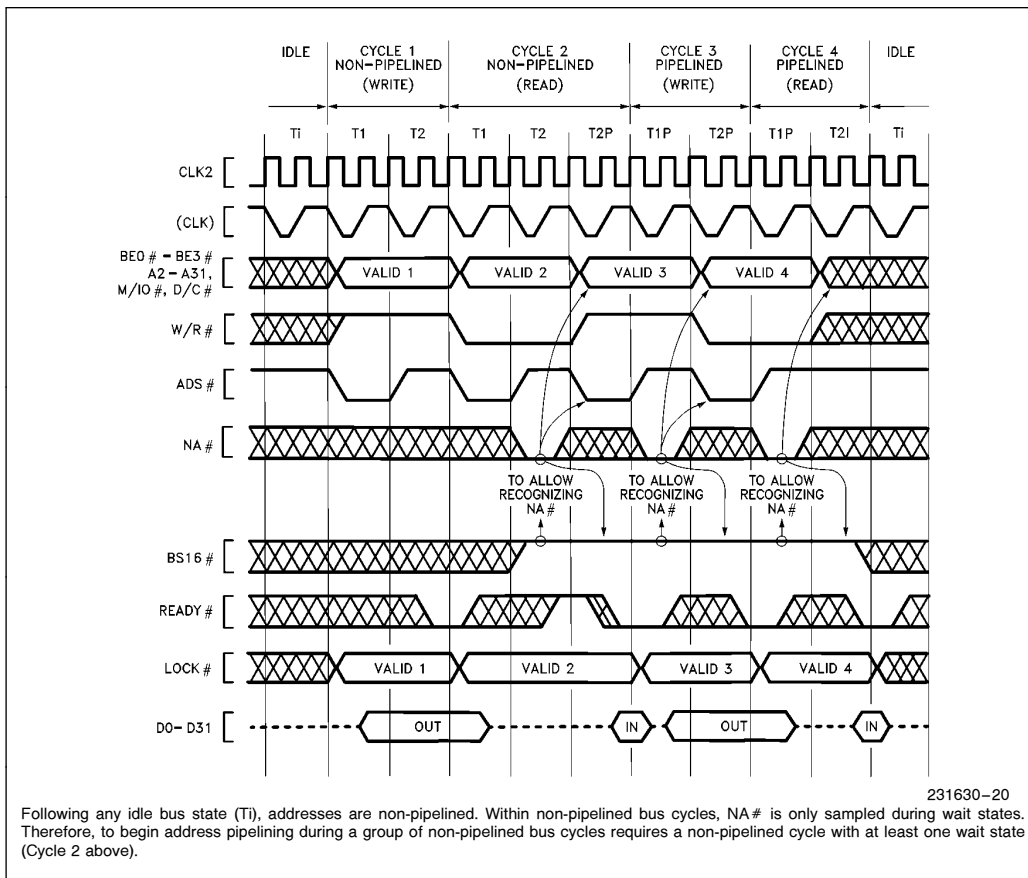
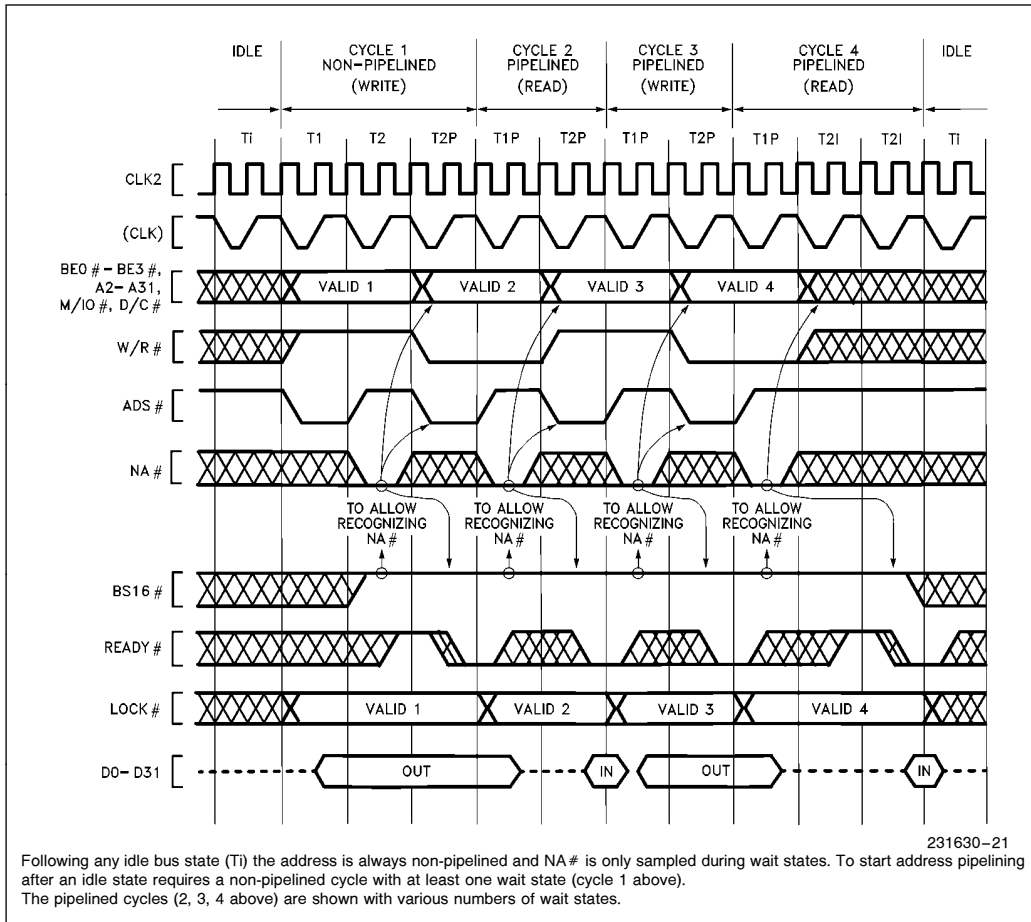
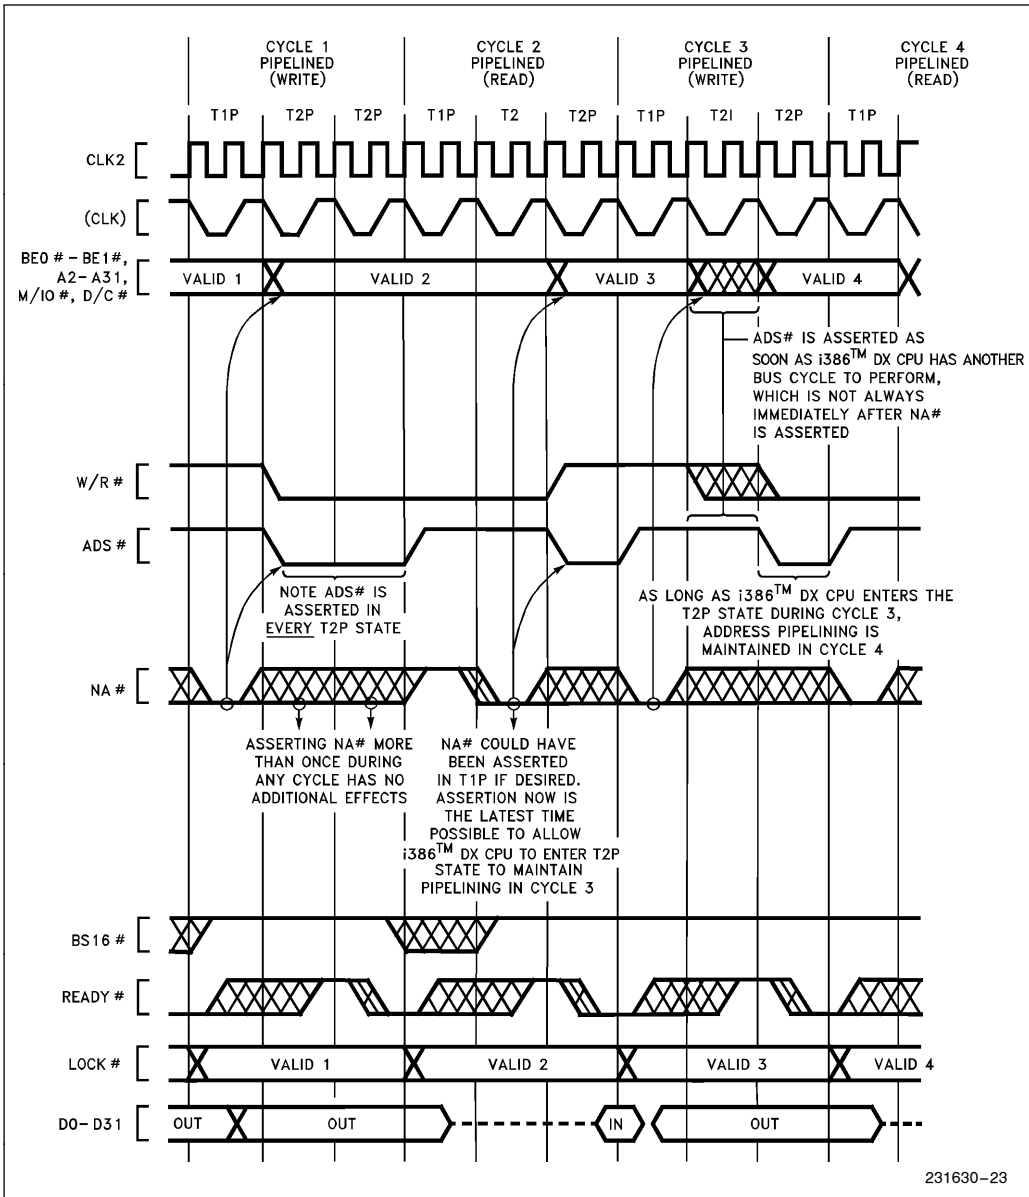

Figure 5-16. Transitioning to Pipelined Address During Burst of Bus Cycles
Figure 5-17. Fastest Transition to Pipelined Address Following Idle Bus State
Figure 5-19. Details of Address Pipelining During Cycles with Wait States
Once a bus cycle is in progress and the current address has been valid for at least one entire bus state, the **NA#** input is sampled at the end of every phase one until the bus cycle is acknowledged. During non-pipelined bus cycles, therefore, **NA#** is sampled at the end of phase one in every T2. An example is Cycle 2 in Figure 5-16, during which **NA#** is sampled at the end of phase one of every T2 (it was asserted once during the first T2 and has no further effect during that bus cycle).
- 1) For **NA#** to be sampled asserted, **BS16#** must be negated at that sampling window (see Figure 5-16 Cycles 2 through 4, and Figure 5-17 Cycles 1 through 4). If **NA#** and **BS16#** are both sampled asserted during the last T2 period of a bus cycle, **BS16#** asserted has priority. Therefore, if both are asserted, the current bus size is taken to be 16 bits and the next address is not pipelined.
- 2) The next address may appear as early as the bus state after NA# was sampled asserted (see Figures 5-16 or 5-17). In that case, state T2P is entered immediately. However, when there is not an internal bus request already pending, the next address will not be available immediately after NA# is asserted and T2I is entered instead of T2P (see Figure 5-19 Cycle 3). Provided the current bus cycle isn't yet acknowledged by READY# asserted, T2P will be entered as soon as the Intel386 DX does drive the next address. External hardware should therefore observe the ADS# output as confirmation the next address is actually being driven on the bus.
must assume the current bus size is 32 bits. Therefore if NA# is sampled asserted within a bus cycle, BS16# must be negated thereafter in that bus cycle (see Figures 5-16, 5-17, 5-19). Consequently, do not assert NA# during bus cycles which must have BS16# driven asserted. See **5.4.3.6 Dynamic Bus Sizing with Pipelined Address.**
- 4) Any address which is validated by a pulse on the Intel386 DX ADS# output will remain stable on the address pins for at least two processor clock periods. The Intel386 DX cannot produce a new address more frequently than every two processor clock periods (see Figures 5-16, 5-17, 5-19).
- 5) Only the address and bus cycle definition of the very next bus cycle is available. The pipelining capability cannot look further than one bus cycle ahead (see Figure 5-19 Cycle 1).
The transition to pipelined address is shown functionally by Figure 5-17 Cycle 1. Note that Cycle 1 is used to transition into pipelined address timing for the subsequent Cycles 2, 3 and 4, which are pipelined. The NA# input is asserted at the appropriate time to select address pipelining for Cycles 2, 3 and 4.
Once a bus cycle is in progress and the current address has become valid, the NA# input is sampled at the end of every phase one, beginning with the next bus state, until the bus cycle is acknowledged. During Figure 5-17 Cycle 1 therefore, sampling begins in T2. Once NA# is sampled asserted during the current cycle, the Intel386 DX is free to drive a new address and bus cycle definition on the bus as early as the next bus state. In Figure 5-16 Cycle 1 for example, the next address is driven during state T2P. Thus Cycle 1 makes the transition to pipelined address timing, since it begins with T1 but ends with T2P. Because the address for Cycle 2 is available before Cycle 2 begins, Cycle 2 is called a pipelined bus cycle, and it begins with T1P. Cycle 2 begins as soon as READY# asserted terminates Cycle 1.
Example transition bus cycles are Figure 5-17 Cycle 1 and Figure 5-16 Cycle 2. Figure 5-17 shows transition during the very first cycle after an idle bus state, which is the fastest possible transition into address pipelining. Figure 5-16 Cycle 2 shows a transition cycle occurring during a burst of bus cycles. In any case, a transition cycle is the same whenever it occurs: it consists at least of T1, T2 (you assert NA# at that time), and T2P (provided the Intel386 DX has an internal bus request already pending, which it almost always has). T2P states are repeated if wait states are added to the cycle.
Note three states (T1, T2 and T2P) are only required in a bus cycle performing a **transition** from non-pipelined address into pipelined address timing, for example Figure 5-17 Cycle 1. Figure 5-17 Cycles 2, 3 and 4 show that address pipelining can be maintained with two-state bus cycles consisting only of T1P and T2P.
Once a pipelined bus cycle is in progress, pipelined timing is maintained for the next cycle by asserting NA# and detecting that the Intel386 DX enters T2P during the current bus cycle. The current bus cycle must end in state T2P for pipelining to be maintained in the next cycle. T2P is identified by the assertion of ADS#. Figures 5-16 and 5-17 however, each show pipelining ending after Cycle 4 because Cycle 4 ends in T2I. This indicates the Intel386 DX didn't have an internal bus request prior to the acknowledgement of Cycle 4. If a cycle ends with a T2 or T2I, the next cycle will not be pipelined.